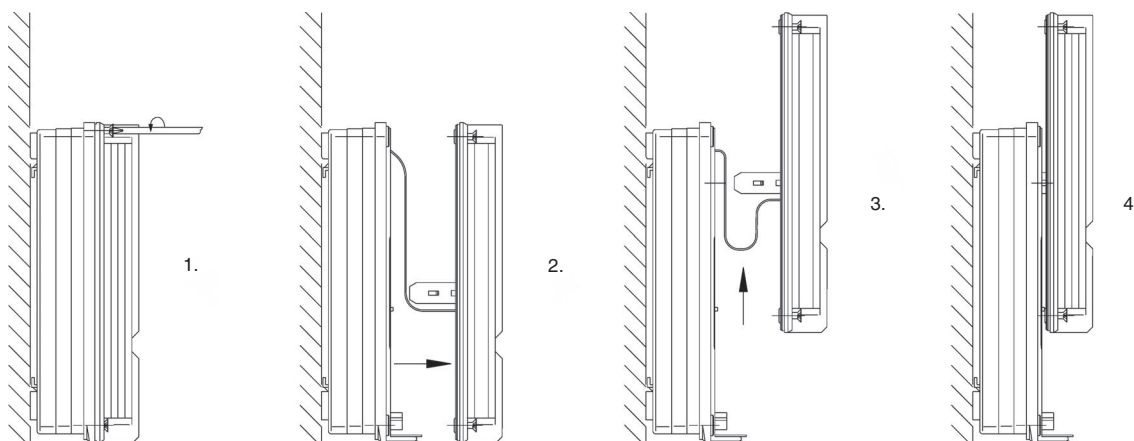

Fig. 9
- remove the four flat head screws, take off the front part and put it into the "parking" position (see Fig. 9).